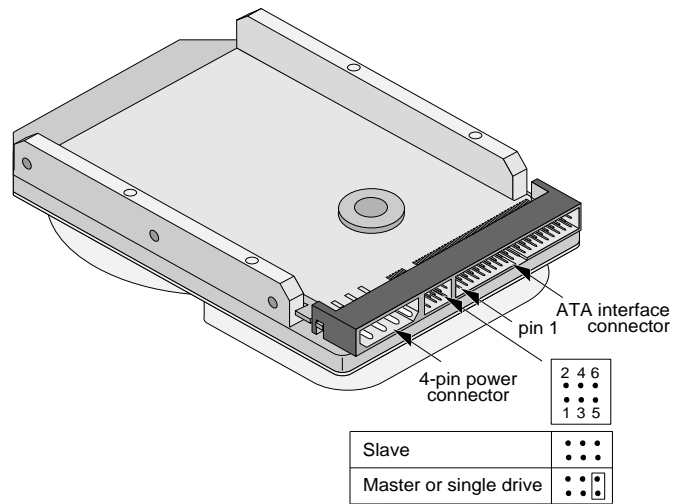

Figure 1. Master and slave jumper settings
- Place a jumper on pins 5 and 6 (see Figure 1 on page 4).